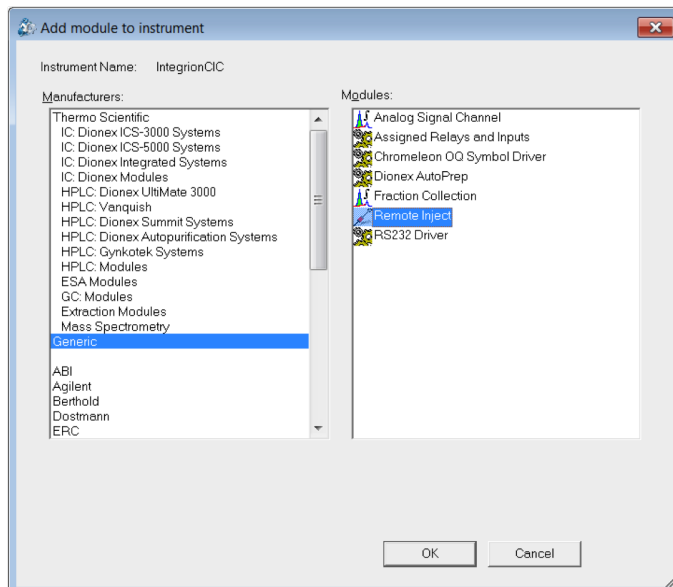

Figure 6. Adding the Remote Inject Module to the instrument configuration
1. Select *Add a Module, Generic, and Remote Inject* (Figure 6). The default device name is InjectValve and needs to be renamed (for example: InjectValve_CIC).